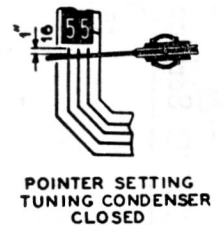

FIG. 3.—Dial Pointer Calibration.
- 2 Holding the tuning condenser in this position, turn the pointer until it is $\frac{1}{8}$ of an inch below the three lines of the scale at the 550 K.C. end. (See Fig. 3.) This is the correct position of pointer at maximum capacity of tuning condenser.